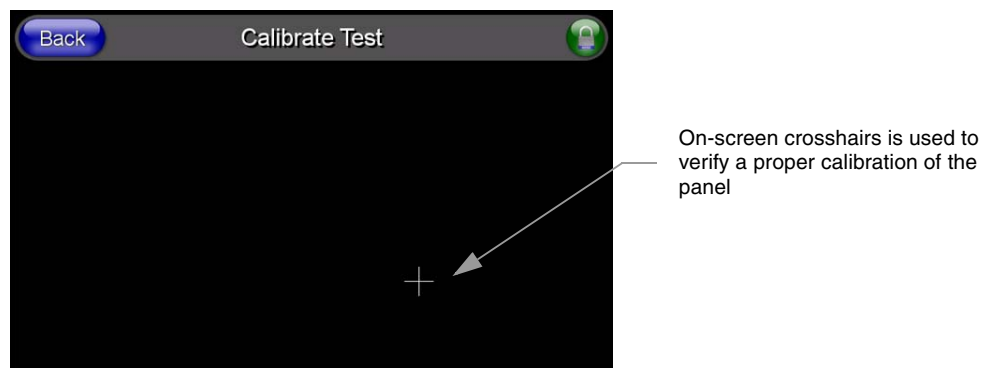

FIG. 70 Calibration Test page
1. Press and hold down the on-screen **Calibration** button for 6 seconds to enter the Calibration Test page (FIG. 70).